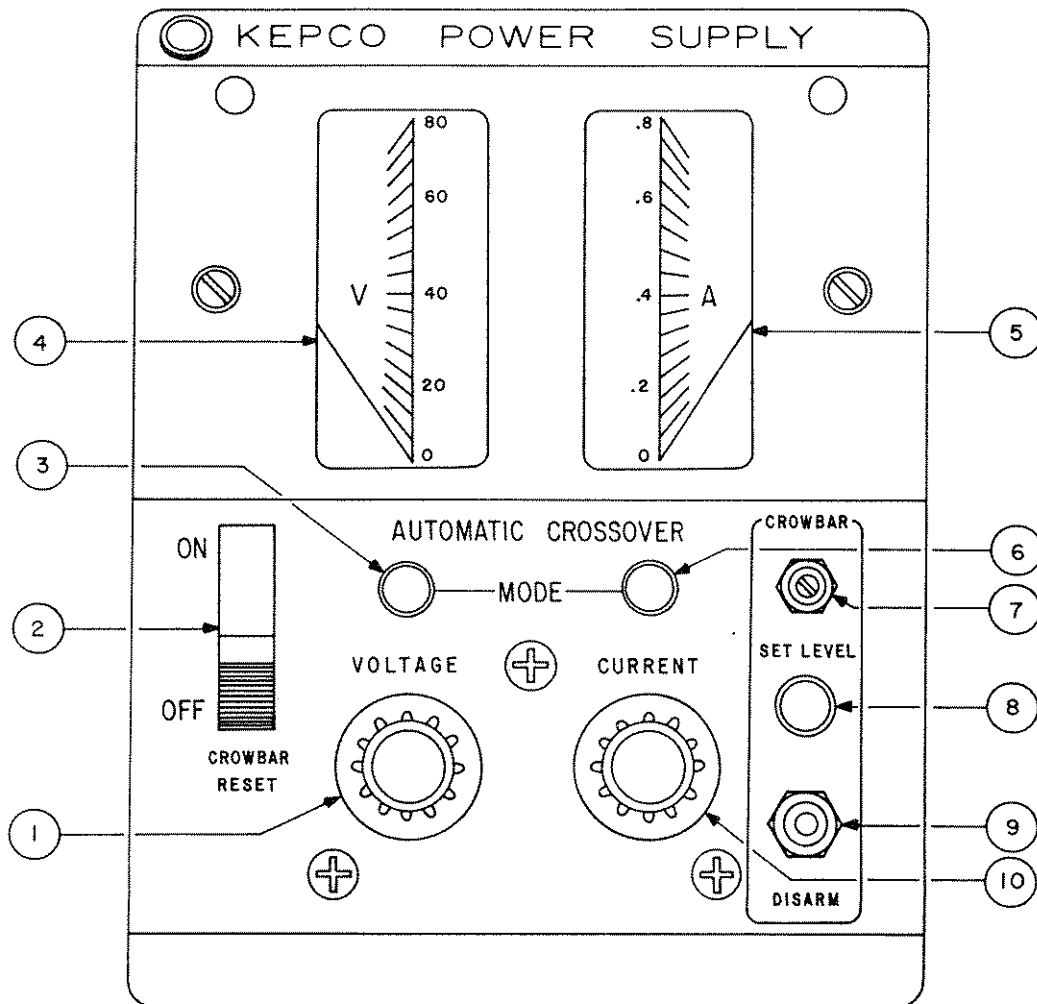
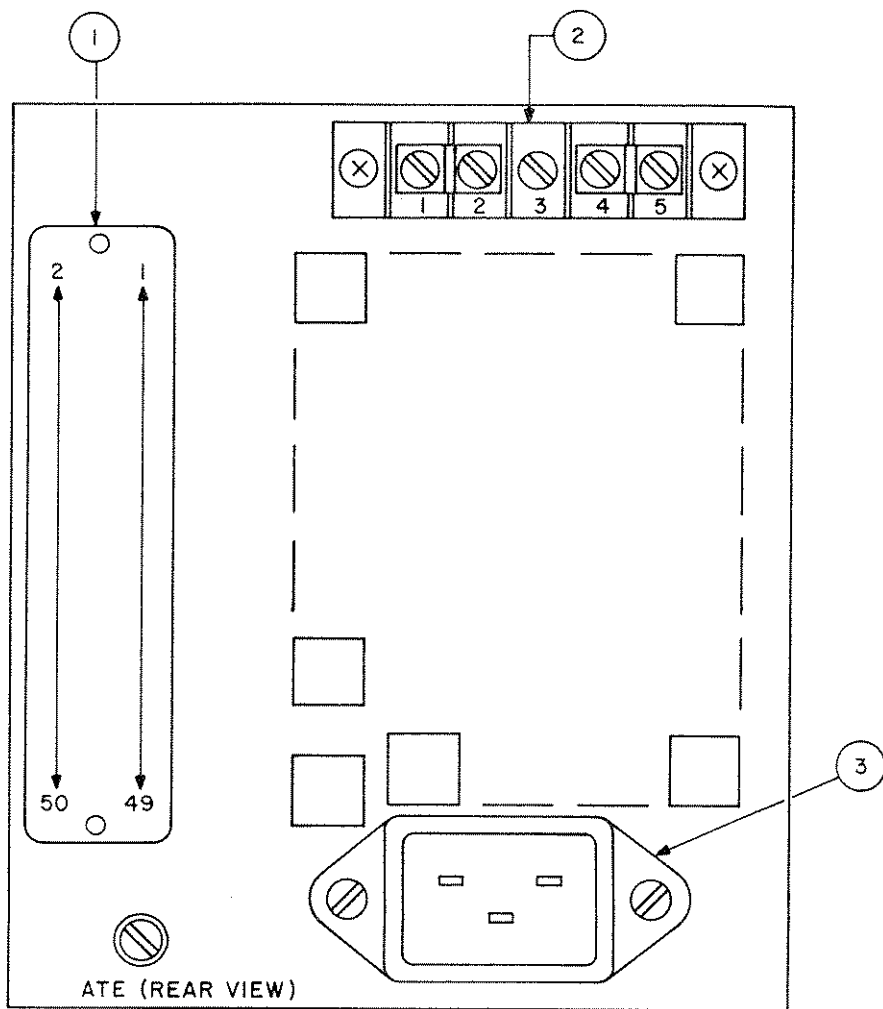

FIG. 2-2 CONTROLS AND TERMINATIONS, ATE 1/4 RACK GROUP, FRONT.
FIG. 2-3 TERMINATIONS, ATE 1/4 RACK GROUP, REAR.
- a) FRONT PANEL: Refer to FIG. 2-2 and Table 2-2.
- b) REAR: Refer to FIG. 2-3 and Table 2-3.
2-9 A simple operating check after unpacking and before permanent installation is advisable to ascertain whether the power supply has suffered damage resulting from shipment. Refer to FIG. 2-2 and to FIG. 2-3 for the location of the operating controls and output terminals.